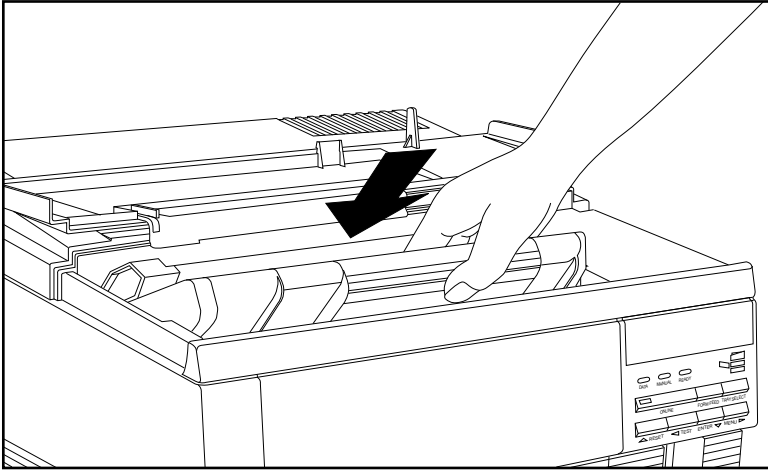

Fig. 6.9 Load the Toner Cartridge
4. Holding the toner cartridge with both hands (fig. 6.9), align and slide the cartridge back into the printer until it rests securely in place. If the cartridge is not seated correctly, the top cover will not close completely.